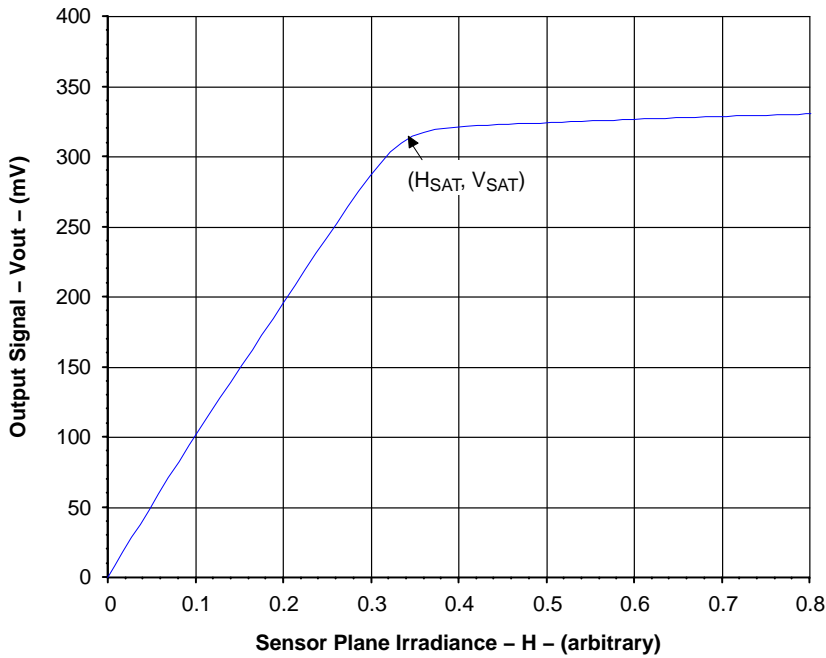

Figure 8. Typical KAI-0330 Photoresponse
6. X_{AB} represents the increase above the saturation-irradiance level (H_{SAT}) that the device can be exposed to before blooming of the vertical shift register will occur. It should also be noted that V_{OUT} rises above V_{SAT} for irradiance levels above H_{SAT}, as shown in Figure 8.